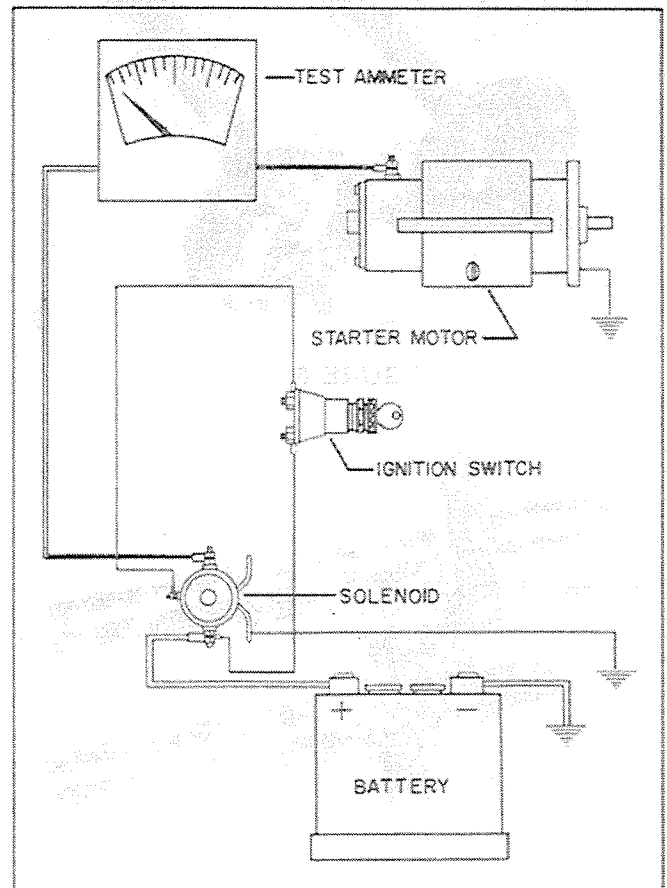

FIGURE 10
1. Ground spark plug high tension leads so that engine can be cranked without firing. Place clamp-on ammeter capable of reading at least 200 amperes against starter motor lead. Figure 10.